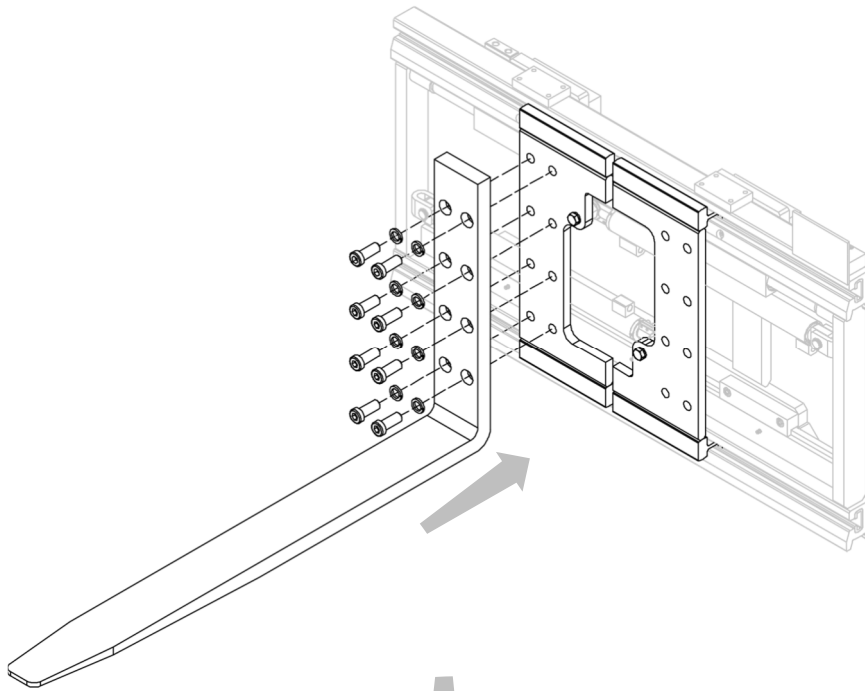
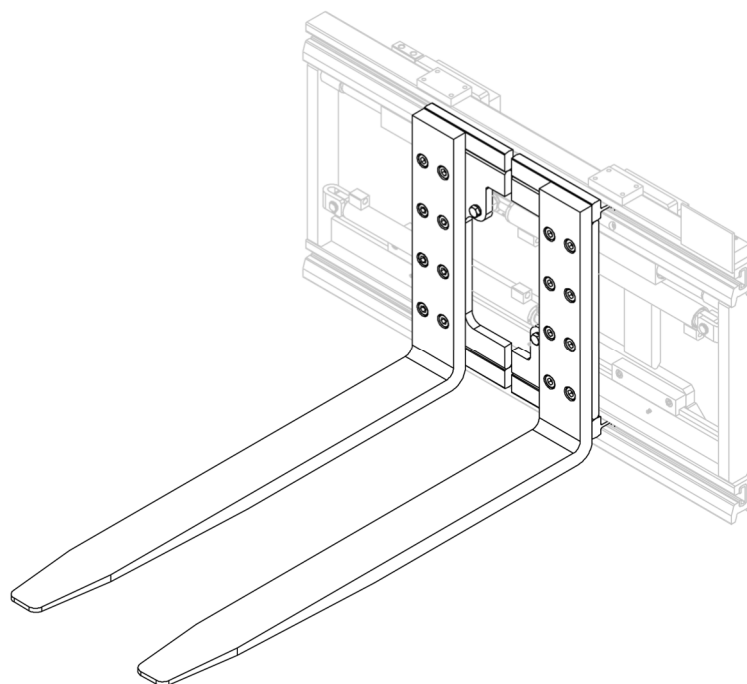

Figure 15
Figure 16
2. Apply the forks to the plates, using the appropriate screws and washers (see *Figure 15* and *Figure 16*).